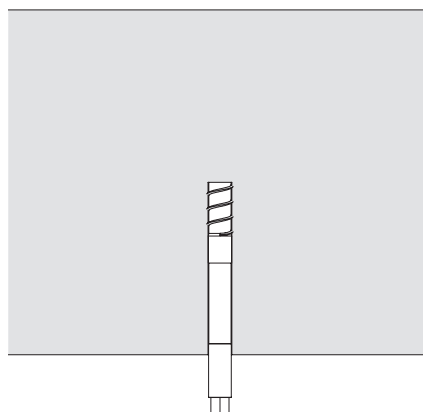

Fig. A5.17
1. Inject Composite Mortar CF-T 300 V (50).
2. Screw Connection Bolt M16/ M24 x 50 (51) and ITH-Sleeve TSM BC 22 x 75 IM 16 (52) together tightly.
3. Screw the unit into the drilled hole with an impact wrench (nominal torque 600 Nm). (Fig. A5.17)